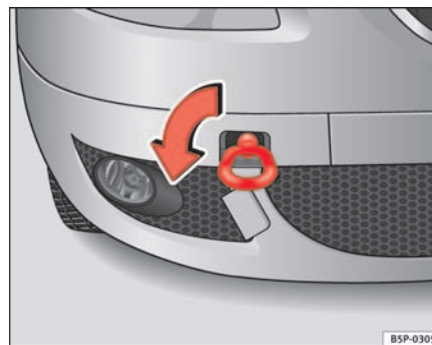
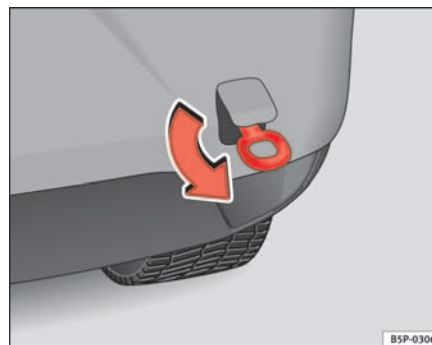

Fig. 199 The front right section of the vehicle: Fitting the front towing eye
Fig. 200 Fitting the towing eye to the rear of the vehicle
- Screw the towing eye as shown by arrow *anti-clockwise* to the limit position in the front ⇒ page 261, fig. 199 or rear ⇒ page 261, fig. 200 threaded hole.